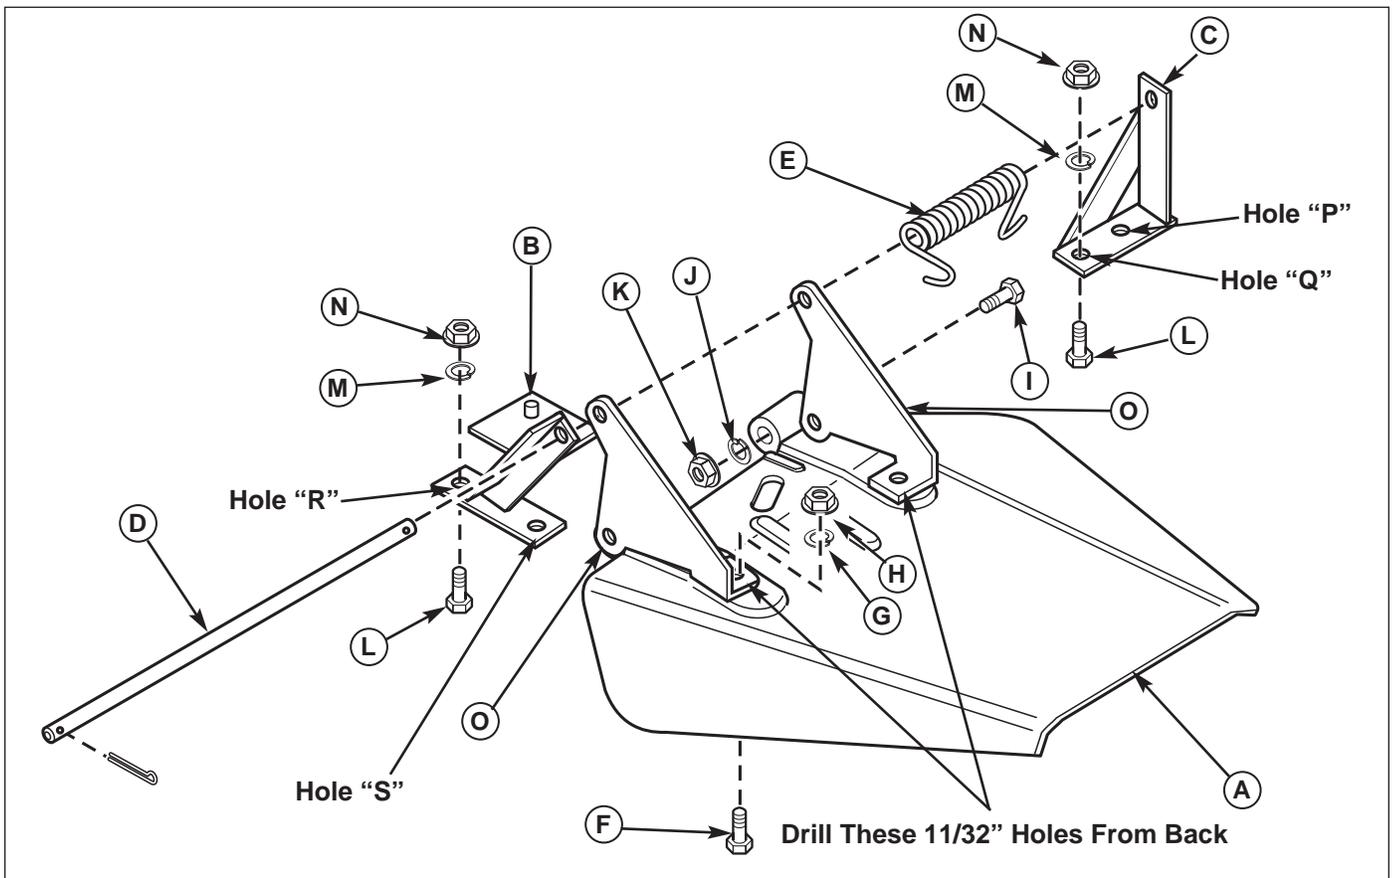

Figure 4. Deflector
1. The two holes for mounting the deflector must be drilled out. Turn the deflector over, and notice that these two holes are started. Finishing drilling the two 11/32 inch holes (See Figure 4).
2. See Figure 4. Connect the deflector (A) to the deflector brackets (O) with two 5/16-18 x 7/8 screws (F), 5/16 lockwashers (G), and 5/16 nuts (H). Install screws from the bottom.
3. Install two 7/16-14 x 2-1/4 capscrews (I), 7/16 lockwashers (J), and 7/16 nuts (K) as shown. Capscrews must be installed with lockwashers and nuts on the inside as shown in Figure 4.
4. Mark and drill two 13/32 holes (S & R) in mower deck. Use Template on page 9. Attach the front pivot bracket (B) using 3/8-16 x 1 carriage bolts, lockwashers, and nuts inserted through hole "S" see Figure 4).
5. Attach the back pivot bracket (C) to the existing hole in the mower deck formerly used to mount the deflector rod. Attach using 3/8-16 x 7/8 carriage bolts, lockwashers, and nuts inserted through hole "P" (See Figure 4).
6. Use the hinge rod (D) to align the front and back pivot brackets (B and C) as shown.
8. In the new drilled hole, install 7/16-14 x 1 capscrews (L), lockwasher (M), and nut (N). Install capscrew from the bottom.
9. Install the deflector (A) assembly. Insert the rod (D) through the brackets (B, O, and C) and spring (E). Secure with a cotter pin at each end.
10. Hook the spring on the rear deflector bracket (O), pre-load one turn, and hook second end on back pivot bracket (C).